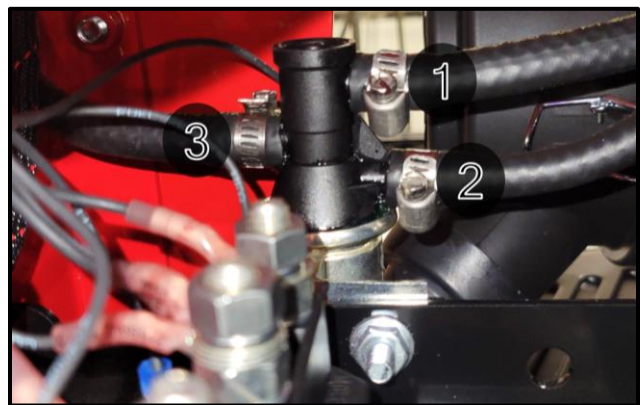

Figure 16 Labeled Fuel Transfer Switch
3. Cut the (3) cable ties securing the fuel lines to the inside of the front panel.
- b. Apply a piece of masking tape with a number written on it according to the map [Figure 16].
21. Reconnect the hoses to their matching barb according to the map [Figure 16].